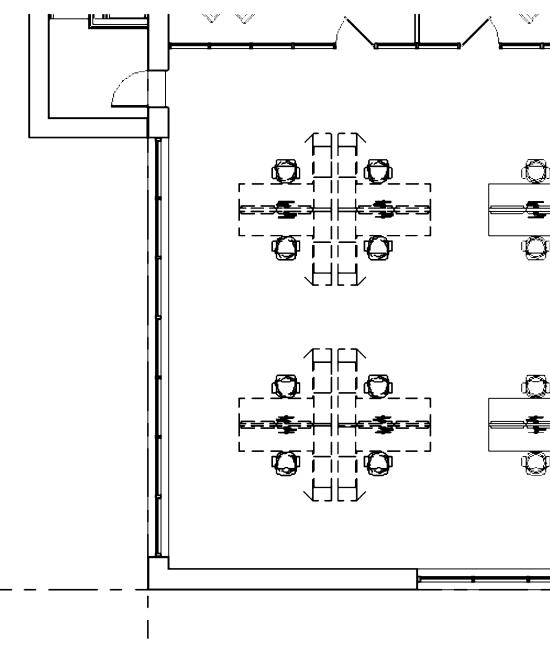

FIGURE 16-3.13
37. In the **Level 2 – New** floor plan view, demolish the eight desks shown dashed in Figure 16-3.13.